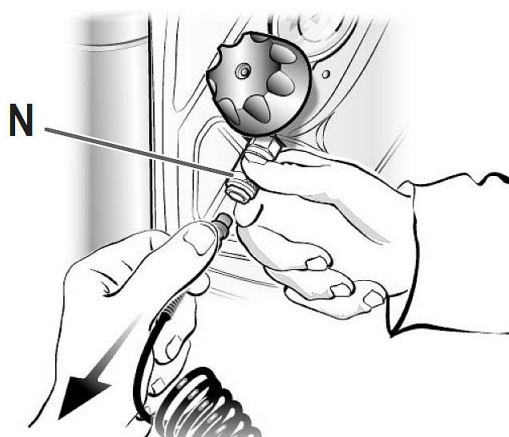

Fig. 6: Release hose coupling
After use, switch off the compressor and empty the compressed air tank by idling the connected accessories (for example, blow with the gun). Then pull the outer nut (N) (Fig. 6) rearward to release the spiral hose from the compressor.